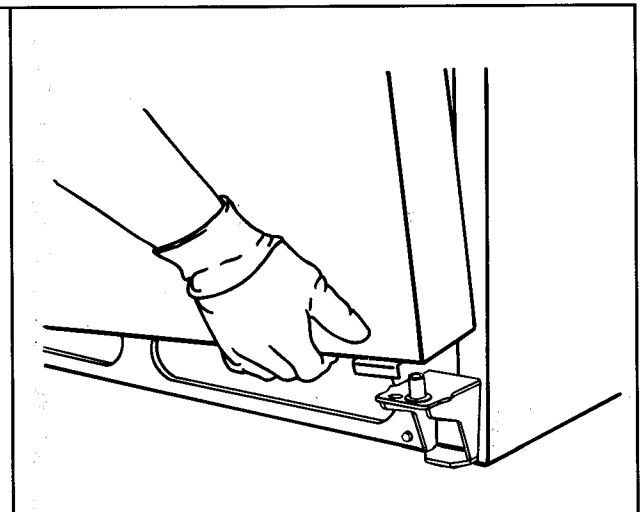

*Figure 20*
- b. Place top hinge plate on top of spacers on top right side of refrigerator. See Figure 20.
**! CAUTION:** To Avoid Risk of Personal Injury or Property Damage have (2) two people help rehang each door, one person to hold door while other secures the hinge pin.